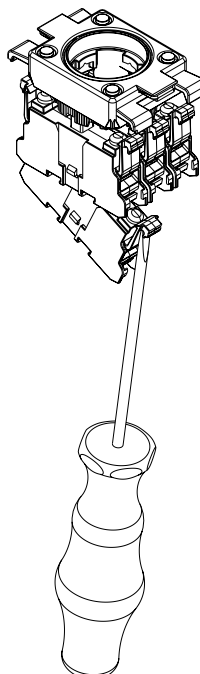

Fig. 7
3. Disassembly of the contact element on level two (see Fig. 7)